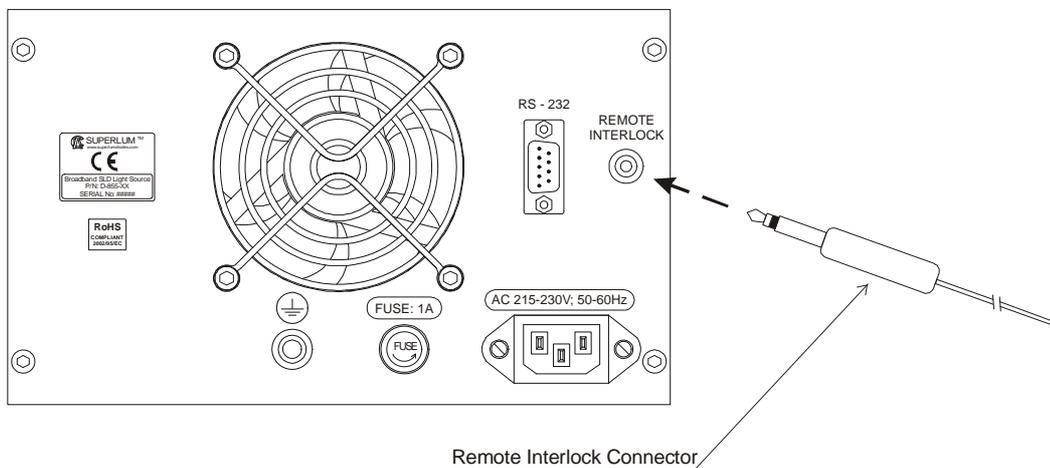

FIGURE 1.3. Rear-Panel Laser Safety Features
- **Remote interlock connector**—This feature, located on the rear panel of the instrument, allows the instrument to be connected to your local external controls for laser safety (see Figure 1.3). The instrument is inoperable unless the interlock connection is made. If there are no external controls in your local area or the use of these controls is not essential for you, an appropriate short-circuited connector must be installed to the rear-panel remote interlock jack. With this connector installed, you will be able to use the instrument independently of your local laser safety system. The necessary connector is supplied with the instrument.